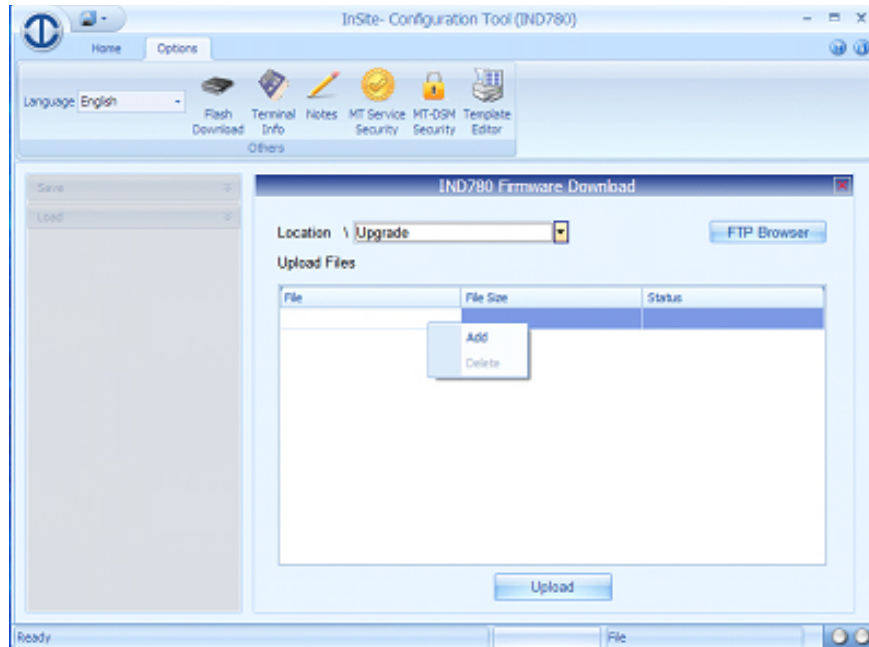

Figure 4-1: InSite Firmware Upgrade File Selection Screen
3. Access Options | Flash Download, or click on the Flash Download icon . From the Firmware Download window (Figure 4-1), select the files to copy to the IND780's Upgrade folder. Refer to the InSite documentation or help system for details on performing this step.